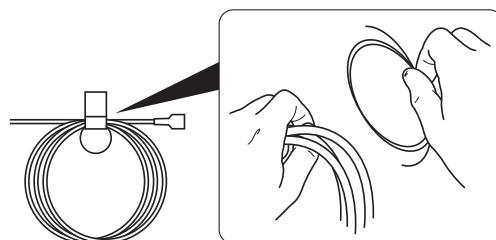

Figure 92 – Disposable Cleaning Wire Removal
1. Remove the paper band securing the handpiece tubing connector bundle and the disposable cleaning wire. Keep the disposable cleaning wire for use during the procedure (Figure 92).